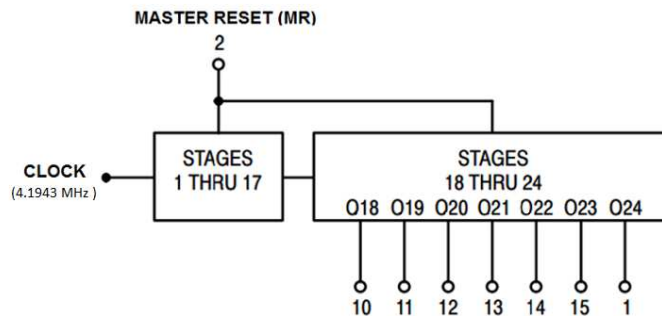

Figure 4 - MC14521B block diagram.²
2. Figure 4 shows the last 7 outputs from the MC14521B IC.
3. For an input clock of 4.1943 MHz, calculate the frequencies in Table 1 for the pin 10, 13 and 14 from Figure 4.